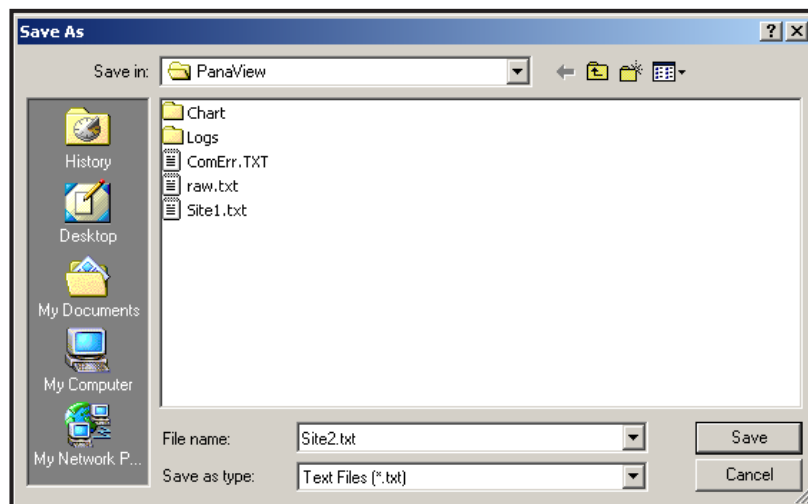

Figure 30: Save As Window
To *save* the raw signal, click *Save*. A window opens similar to Figure 30. Enter the desired name, and click *Save* to save the signal as a text file.
2. Click *Save Site to PC*. A window opens similar to Figure 30 on page 109.